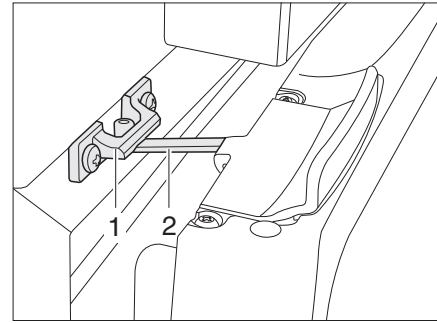

Fig. 136 Refrigerator door in ventilation position (Thetford)
■ Open the lock (Fig. 136,2) and snap it into the locking catch (Fig. 136,1). The refrigerator door will then stay slightly open.